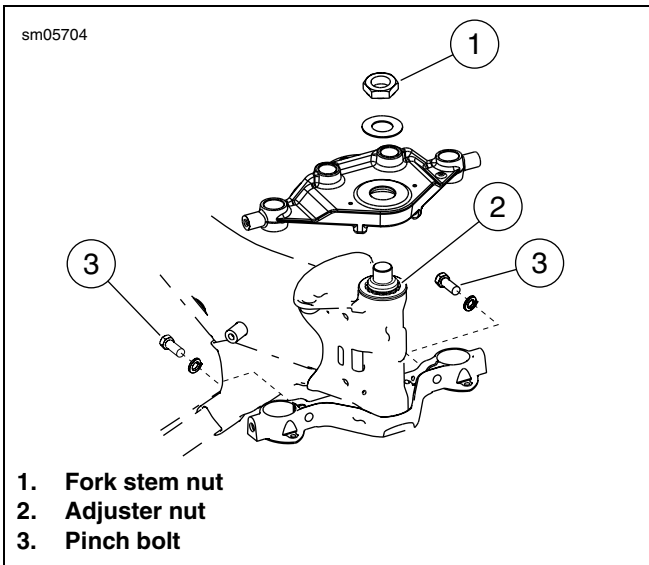

Figure 1-39. Fork Stem and Brackets
2. See Figure 1-39. Loosen pinch bolts (3) on lower fork bracket.
- See Figure 1-39. Turning the bearing adjuster nut (2) as little as one notch will make a noticeable difference in the swing pattern.
5. Turn bearing adjuster nut (2) as follows: